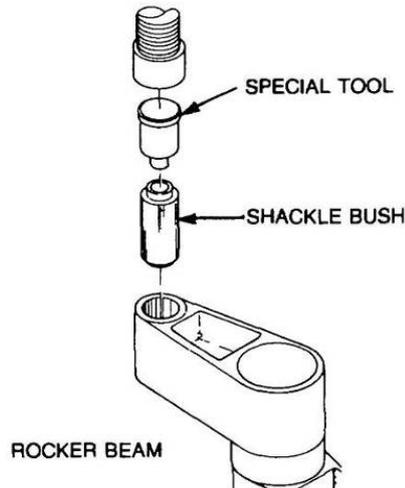

Figure 159 Replacement of the Rocker Beam Spring Bush
- c. Position the rocker beam bush remover adaptor (Table 3, Serial 17) on the rocker beam spring bush (Figure 159). Ensure that the tool is correctly aligned and press the spring bush from the rocker beam.